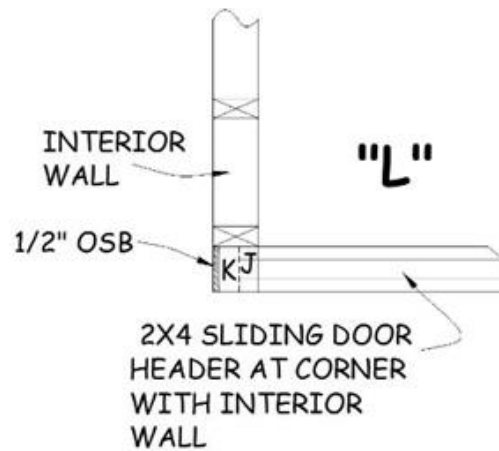

Figure 3-8. Interior L-Corner in Flush Sliding Door.
4. Referring to the House Plan, check for flush sliding closet walls that end at an inside corner of the closet (typically adjoining the 25” closet end wall). Similar to a plumbing wall, lay out the end of the flush sliding wall with a 3½” sandwich of Jack stud, King stud, and ½” of OSB. See Figure 3-8 below.